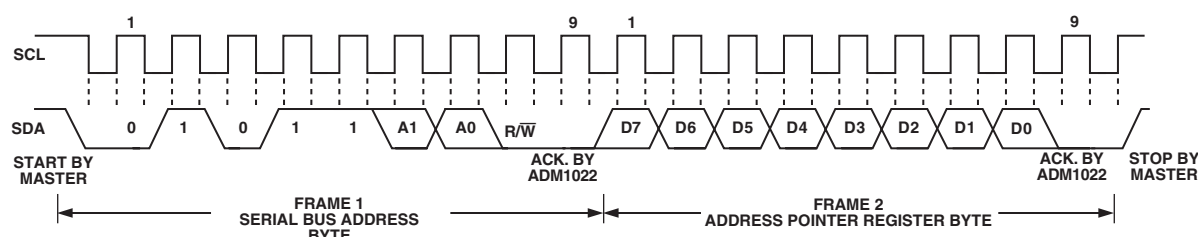

Figure 2b. Writing to the Address Pointer Register Only
1. If the ADM1022's Address Pointer Register value is unknown or not the desired value, it is first necessary to set it to the correct value before data can be read from the desired data register. This is done by performing a write to the ADM1022 as before, but only the data byte containing the register address is sent, as data is not to be written to the register. This is shown in Figure 2b.
2. If the Address Pointer Register is known to be already at the desired address, data can be read from the corresponding data register without first writing to the Address Pointer Register, so Figure 2b can be omitted.